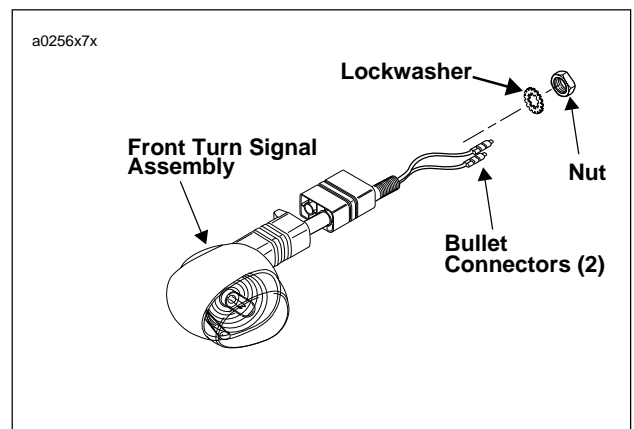

Figure 7-70. Front Turn Signals
3. See Figure 7-70. Remove nut and lockwasher.
1. See Figure 7-70. Install turn signal with lockwasher and nut. Tighten nut to 25-28 **in-lbs** (2.8-3.2 Nm).